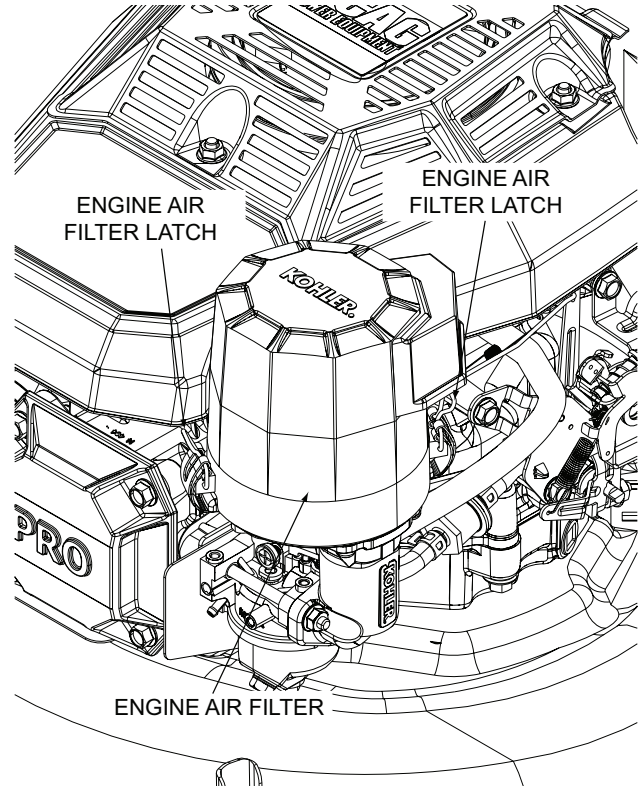

Figure 7-4. Engine Air Filter
1. Lift up on the latch securing the air cleaner cover to the air cleaner assembly. See Figure 7-4.